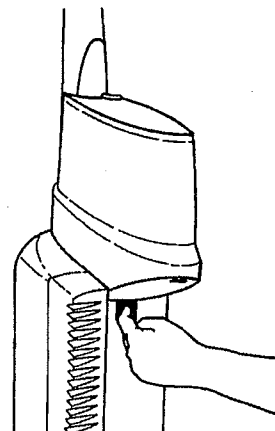

Figure 24
7. Look into the upper right-hand side of the Collection Bin Compartment for the Cyclone Entrance. You'll see an Air Passageway that faces the Cyclone Entrance on the Collection Bin. (See Figure 24.)